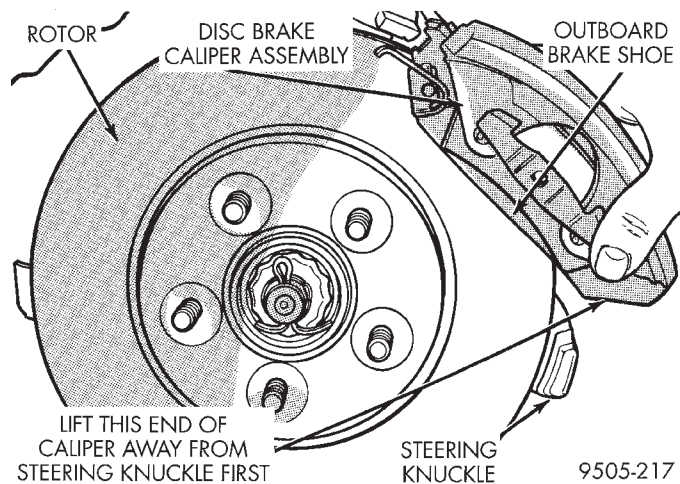

Fig. 33 Caliper Removal From Steering Knuckle
(6) Remove disc brake caliper assembly from steering knuckle. Caliper is removed by first lifting bottom of caliper away from steering knuckle, and then removing top of caliper out from under steering knuckle (Fig. 33).
(6) Install braking disc back on hub and bearing assembly.
(7) Install disc brake caliper assembly on steering knuckle. Caliper is installed by first sliding top of caliper under top abutment on steering knuckle. Then installing bottom of caliper against bottom abutment of steering knuckle (Fig. 33).